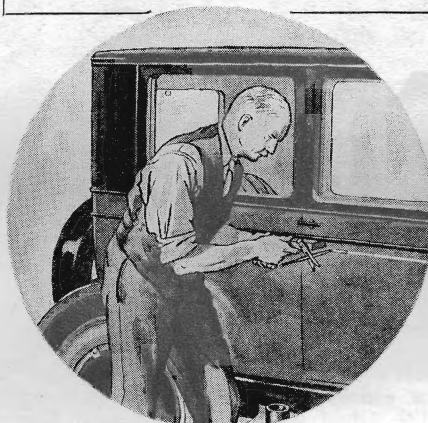

Fig. 3. Amateur auto painters will find this ingenious homemade device a great help in adding a stripe to the finished paint job
C. A. Tubby, of Elizabeth, N. J., wins this month's prize of \$10 with his suggestion of a motor car painting device (Fig. 3). POPULAR SCIENCE MONTHLY awards \$10 each month, in addition to regular space rates, for the best idea for motorists. Other published contributions will be paid for at usual rates.
A SIMPLE aid for striping a car can be constructed from a block of wood, a wood screw and a clothespin. Fig. 3 shows the device in use. The pin is screwed to the block of wood. By turning the pin and moving the brush in the fork of the pin the location of the stripe with reference to the bead on the panel can be adjusted. The block is slid along the panel with the bead as guide.